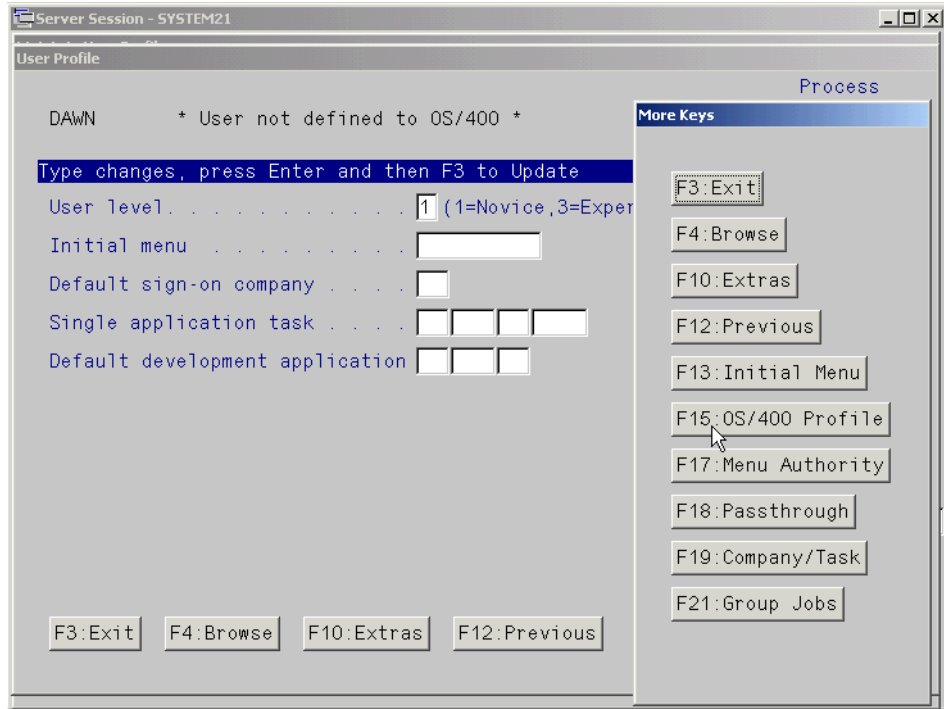

Figure 59. Common Functions - User not defined
8. The QSECOFR profile has the rights to create the OS/400 user at this point. This can be done by clicking the **More Keys** button to present additional function keys, which are shown in Figure 59 on page 116.